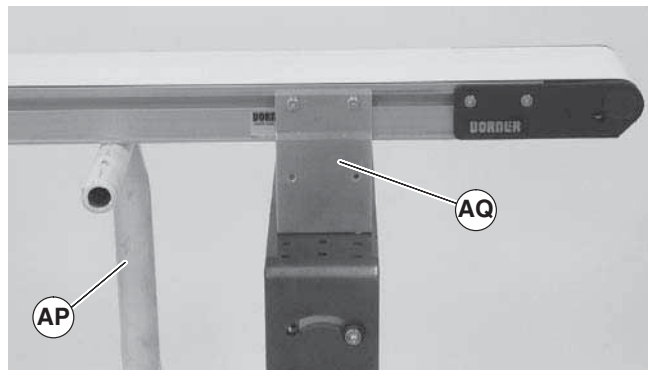

Figure 21
8. Place temporary support stands (Figure 21, item AP) at both ends of the conveyor.
9. Remove mounting brackets (Figure 21, item AQ) from one side of conveyor. (Reverse steps 3 & 4 of “Mounting Brackets” section, page 8.)